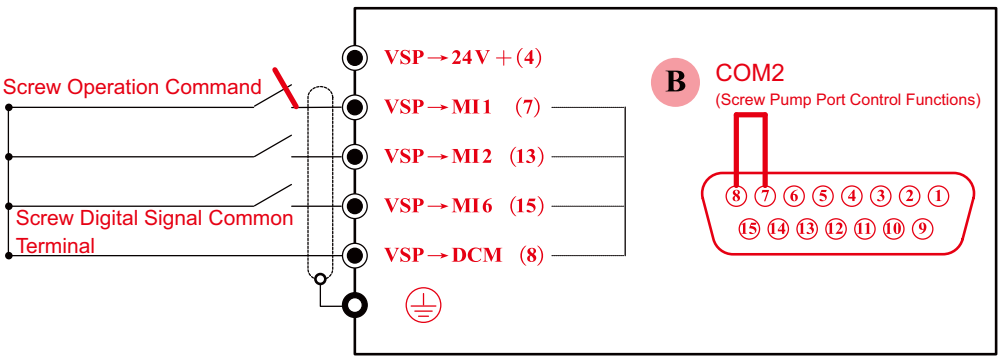

Figure 4 Screw Pump Run Command Wiring Method
- 2.1 Short VSP-MI1 and VSP-DCM to run the screw pump (as shown in Figure 4 "Screw Pump Run Command Wiring Method"). Note: The screw pump is set with a 30-second delayed shutdown (parameters can be modified via host computer or HMI).